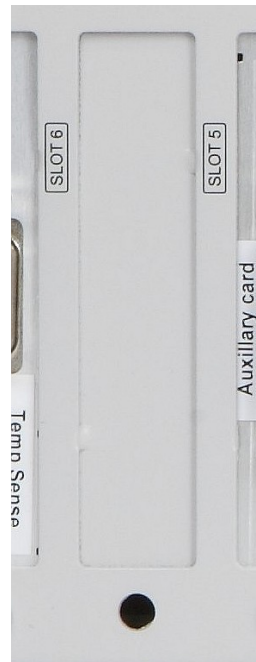

Figure 6 MercuryiTC daughter board blanking plate
- 3 Knock out the blanking plate (Figure 6) in the location where the board is to be fitted. The blanking plates are held in place by 2 metal tongues (4 metal tongues on early iTCs).